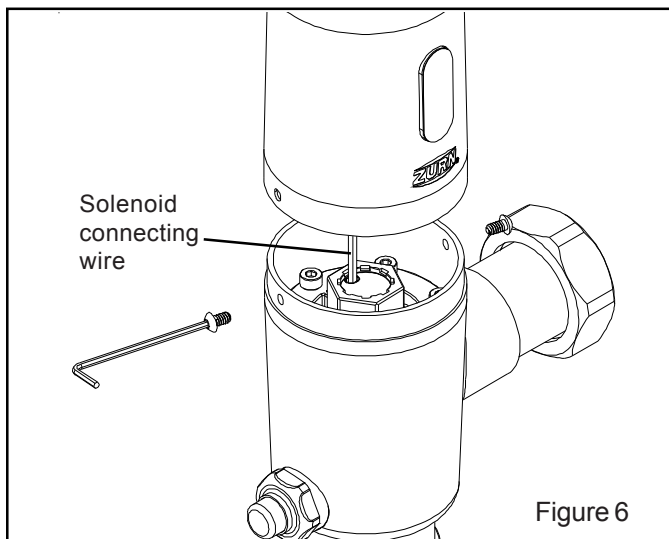

Figure 6
- Using the 2mm allen wrench supplied with the valve in the package containing the stop valve cover, remove the two 6-32 button head screws holding the top assembly in place. (Be sure to place the screws somewhere safe so they do not get lost.) **See Figure 6**
- Using the 2mm allen wrench supplied with the valve, remove the two 6-32 button head screws holding the top assembly in place. (Be sure to place the screws somewhere safe so they do not get lost.) **See Figure 6**